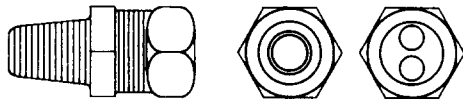

Fig. 1—200A, B, C, D, or E Connectors
2.01 **200A Through E:** The 200-type connectors (Fig. 1) consist of a coupling, hexagon cap, rubber bushing, and compression washers. These connectors are used in the UG16 cable terminals to provide a water-tight entrance for subscriber connections.